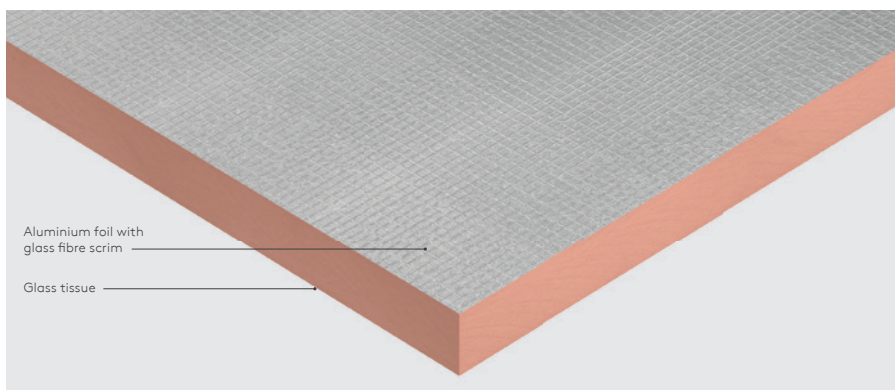

Figure 1: Rigid phenolic insulation
- Premium performance insulation board with external aluminium facing and internal glass tissue as shown above in Figure 1.